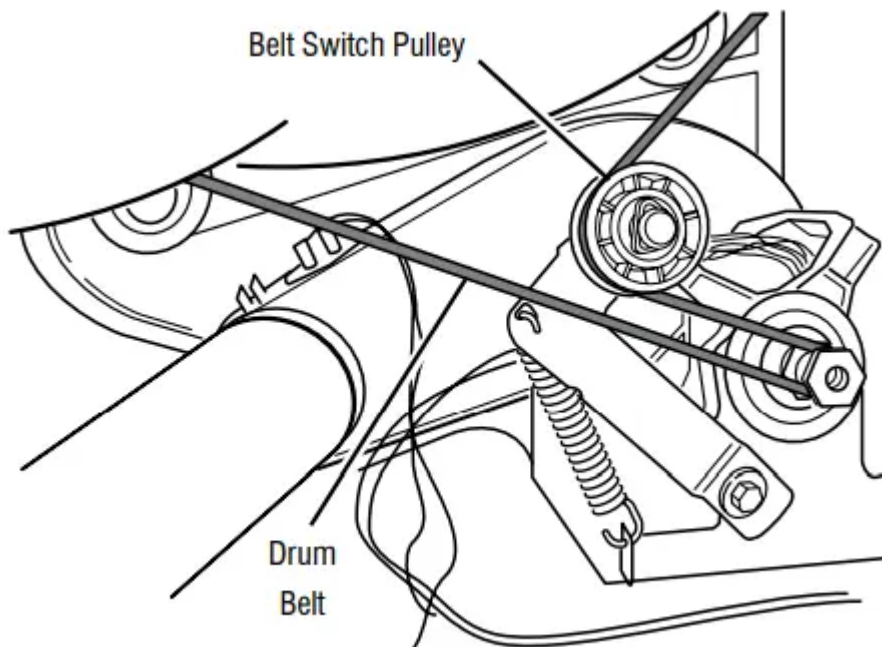

Figure 8 - Slowly remove drum belt
7. Check the drive motor. Slowly remove the drum belt from the springloaded pulley, gently letting the pulley down. See figure 8.